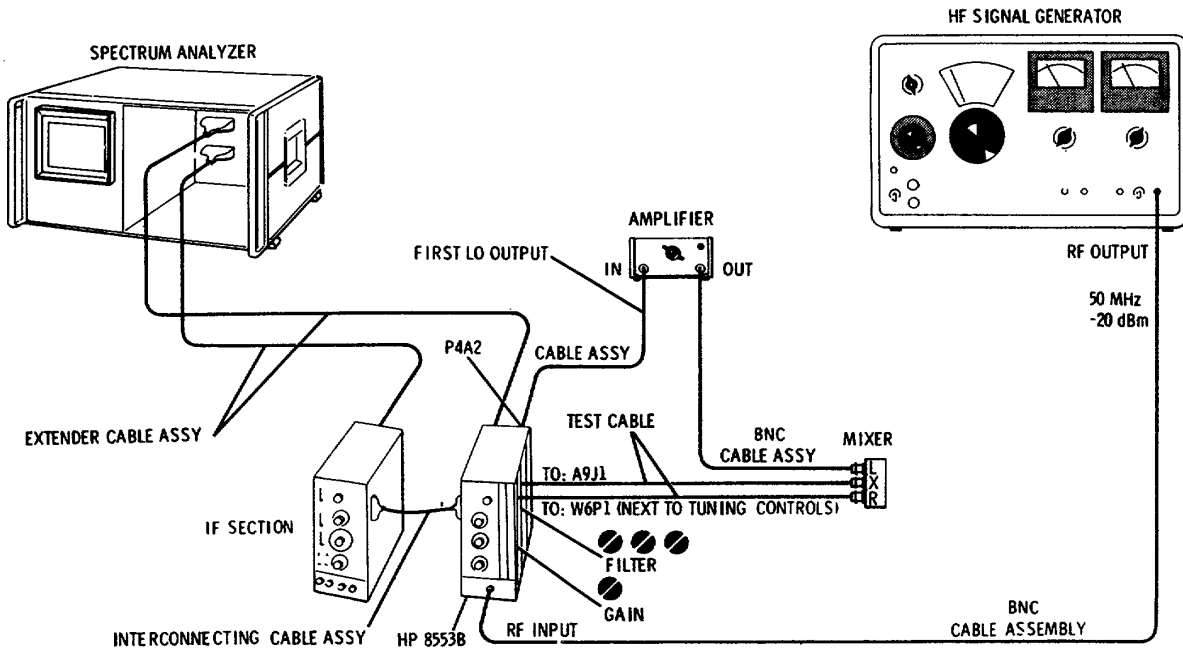

Figure 5-4. 200 MHz IF Bandpass Adjustment Test Setup
1. Connect the test setup in Figure 5-4 and make the following control settings: